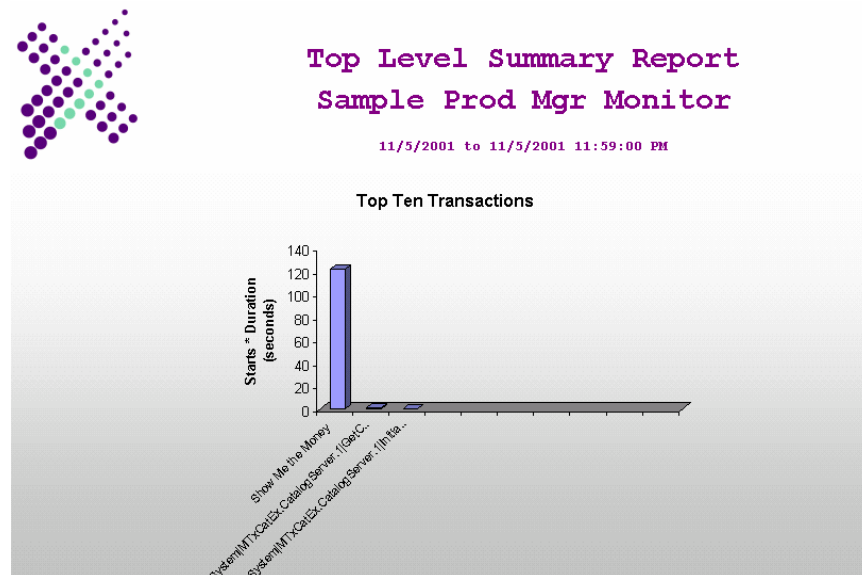

Figure 8
9. The first report to view is the **Summary Report** (see Figure 8).